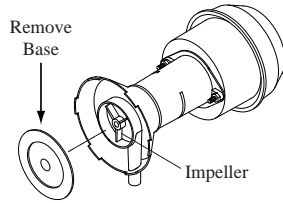

Fig. 7
• **Clean pump.** Cleaning the pump is necessary once a year at start-up. For your safety, turn unit off and unplug from power receptacle. Remove the pump from the mount slot. Remove the base of the pump (Fig. 7). Clean the pump and turn the impeller to ensure free operation. Remove the pump spout and check for any blockage. After cleaning, reinstall the base onto the pump. Press firmly to make sure it is secure. Reattach the pump to the mount in the cooler using the plastic retainer to ensure that the pump will not overturn. Do not forget to replace the spout and water delivery tube onto the pump outlet.